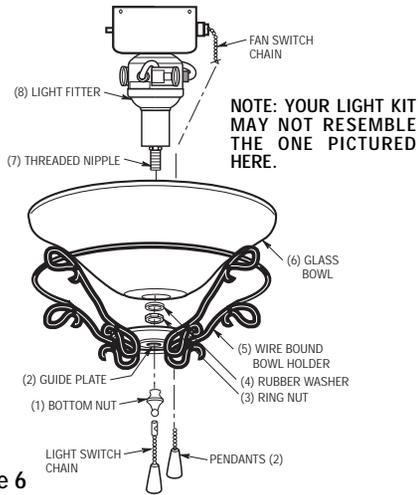

Figure 6
1. Install a 60-watt (max.) candelabra base light bulb (not included) into each of the three lamp holder sockets (Figure 6).
2. Remove the bottom nut(1), the rubber washer(4) and the ring nut(3) from the light fitter(8).
3. Place the glass bowl(6) onto the threaded nipple(7). Align the fan chain with the small hole on the glass bowl. Position the rubber washer(4) and the ring nut(3) onto the threaded nipple and tighten finger tight.
4. Install the wire bound bowl holder(6) by positioning the bowl holder against the bottom of the glass bowl(6) on the threaded nipple(7). Align the small hole in the guide plate.